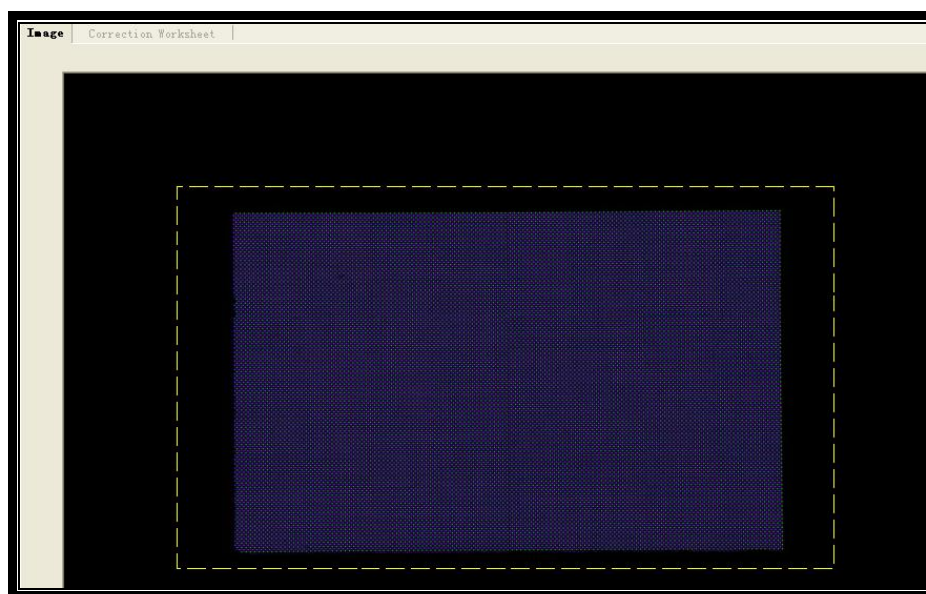

Fig.3-16
Step15: Adjust the focus and direction of the camera, and aim at the LED cabinet, ensure the cabinet in the yellow dashed frame, as shown in fig. 3-16.